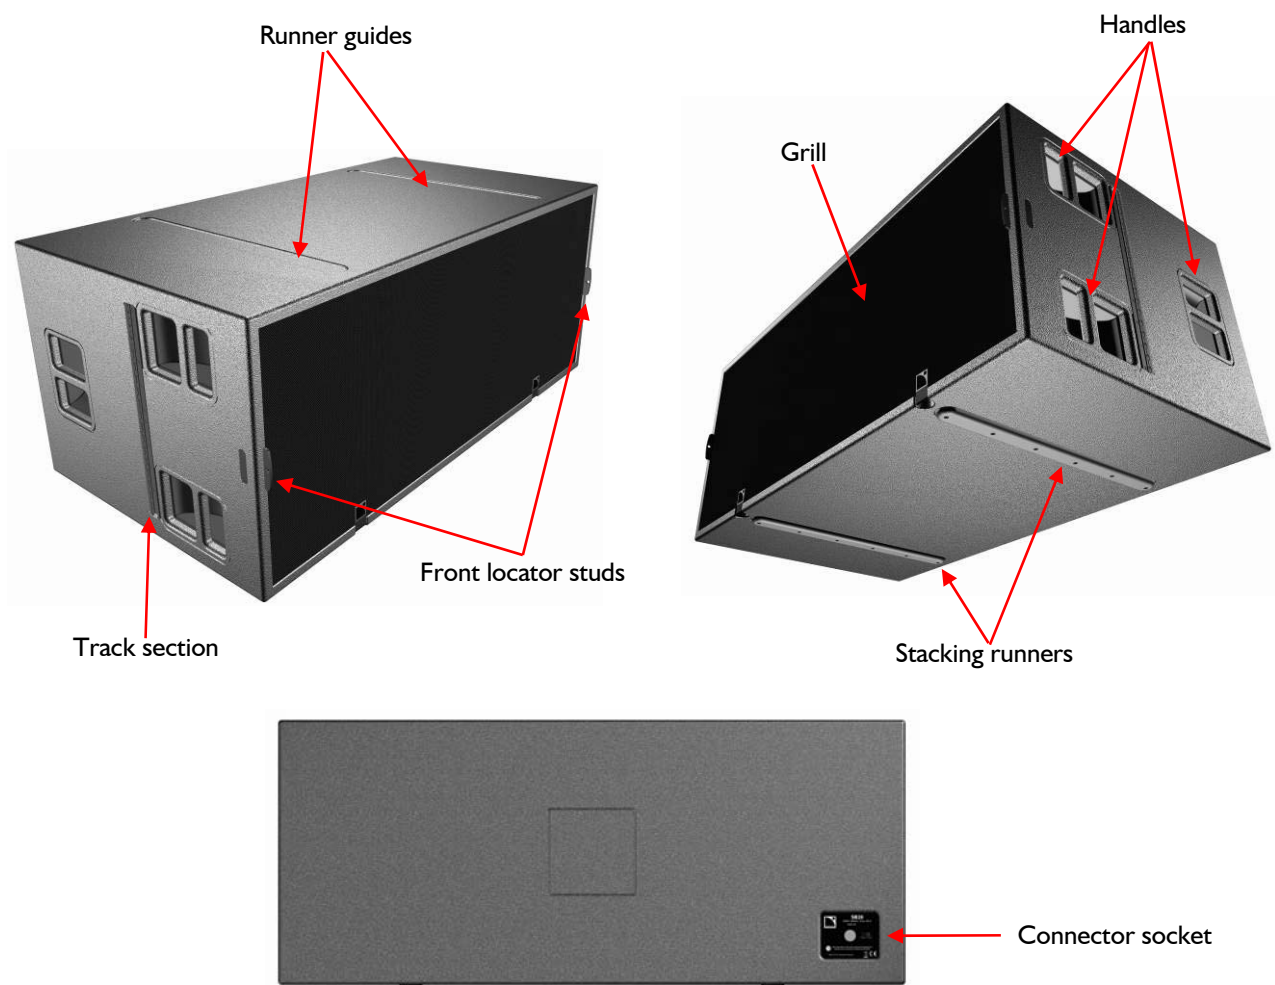

Figure 3: The SB28 subwoofer enclosure
The optional **L-ACOUSTICS® SB28PLA** dolly board (see Figure 2) can be secured to the SB28 enclosure by inserting the two captive dolly board pins in the front locator studs (see Figure 3) thus allowing easy transportation and protection of the enclosure.
- Stacking vertical array of up to 6 SB28 enclosures using the fully integrated stacking runners and runner guides (see Figure 3).